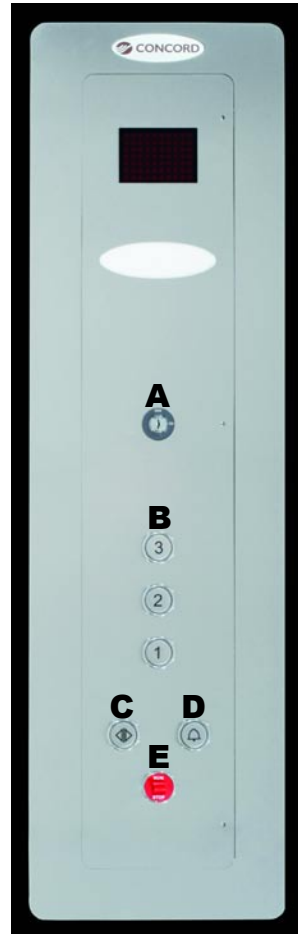

Figure 1 3 Stop COP
1) Cab Key Switch (Figure 1-A)
2) Cab Operating Panel Buttons (Figure 1-B)
3) Door Open Button (Figure 1-C)
4) Emergency Stop Button (Figure 1-E)
5) Alarm Button (Figure 1-D)